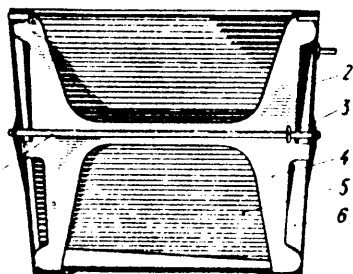

Fig. 4. Mount with mirror:
4.6. **Mirror.** Place frame 2 (Fig. 4) with mirror 6 into horizontal position. By depressing hold-down 4 unlock washer 3 of axle 1 in the hold-down slot. Remove the axle and the frame with the mirror.